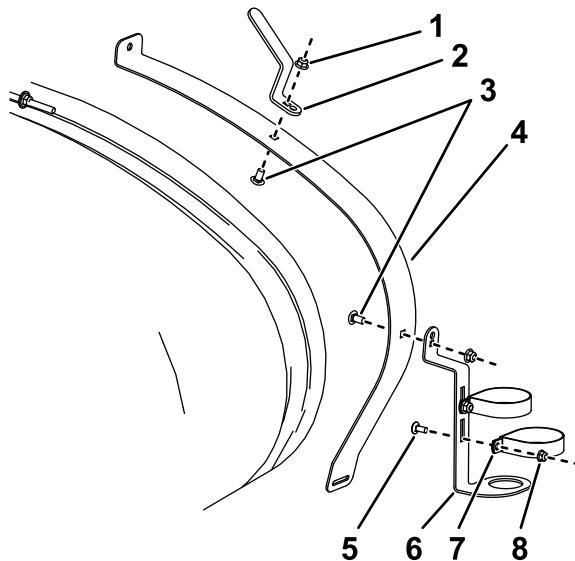
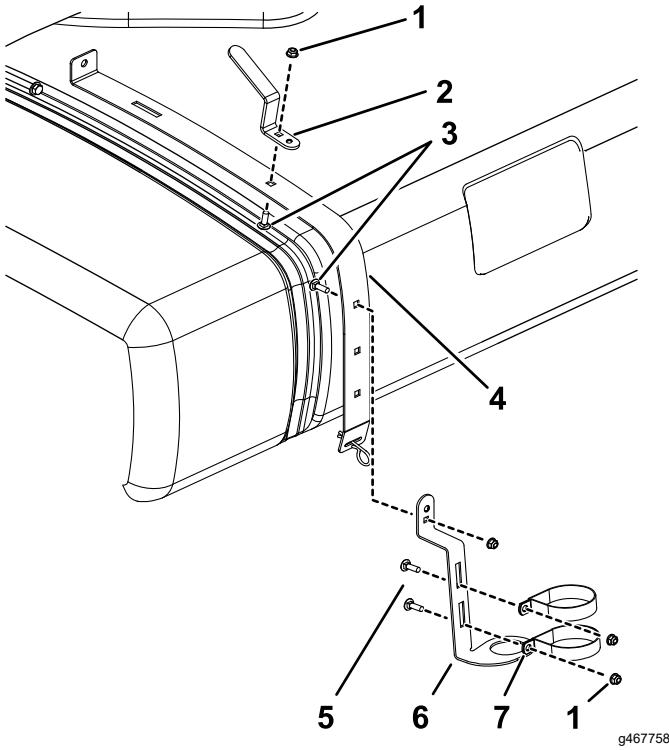

Figure 1
Figure 2
- For the Multi Pro WM, loosen the rear, right strap (Figure 2).
- For the Multi Pro 1750 and Multi Pro 5800, loosen the front, right strap (Figure 1).
2. Install the R-Clamps, spray-gun bracket, and hose hook as shown in Figure 1 or Figure 2 using a carriage bolt, flat washer, and flange-head nut.